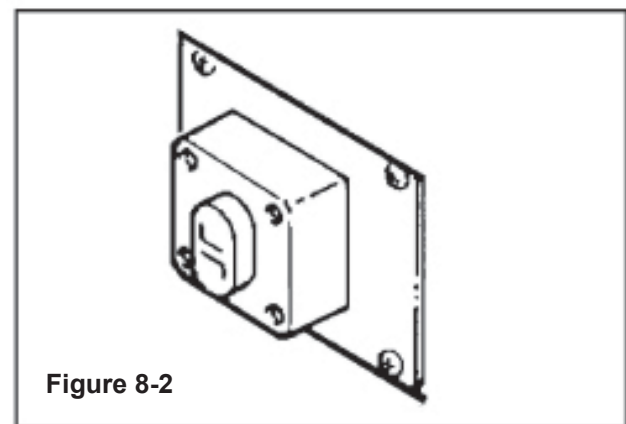

Figure 8-2
- The main switch start switch "ON" (Figure 8-2)